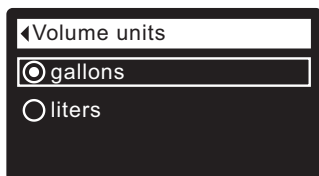

FIG. 58
5. Press the SELECT (O) button to display the Volume units menu (See Figure 58).
6. If the desired volume unit already has a dot next to it (See Figure 58), go to Step 7. Otherwise, press the DOWN (▼) or UP (▲) buttons to scroll to the other volume unit, then press SELECT (O) to choose it.
7. Press the SELECT (O) button. The display will go back to the User preferences menu.